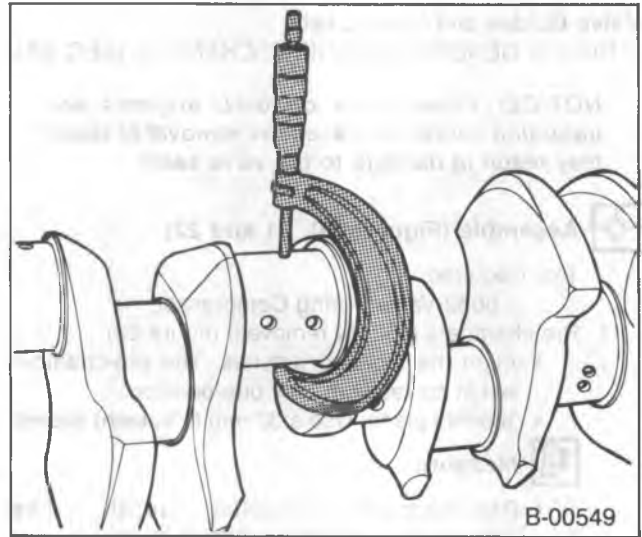

Figure 27—Measuring the Crankshaft Journals
Measure (Figures 27 and 28)
(figure 27). Compare with "Specifications." Grind or replace the crankshaft if necessary.
- Main bearing and connecting rod journals for taper and out-of-round (figure 27). If the journals are tapered or out-of-round more than 0.001-inch, replace the crankshaft.